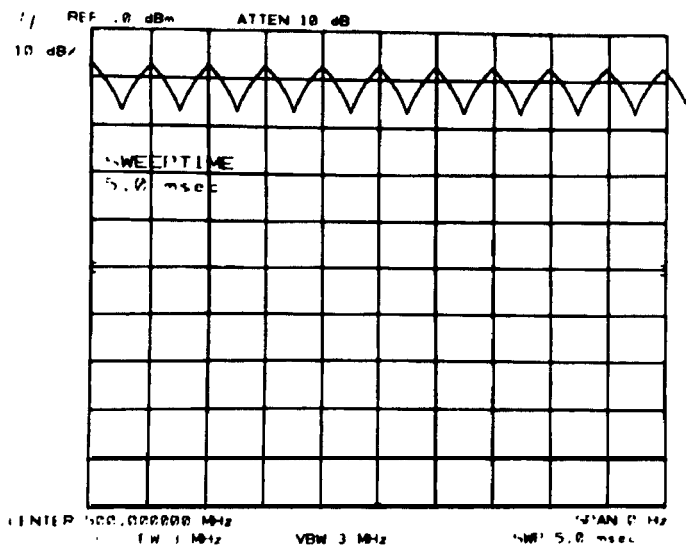

Figure 2-36. Fast Sweep Time Measurement (<20 ms)
10. Adjust spectrum analyzer TRIGGER LEVEL to place a peak of the triangular waveform on the first graticule from the left edge of the CRT display as a reference. (Adjust function generator amplitude, if necessary, to provide a signal large enough to produce a stable display.) The fifth peak from the reference should be within ±0.5 division of the sixth graticule from the left edge of the display. (See Figure 2-36.)